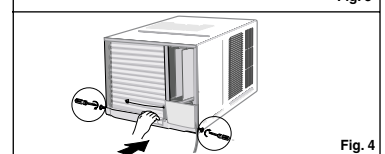

Fig. 4
5. Slide the chassis back into the cabinet. Reinstall the cabinet screws. Secure the cabinet to chassis by using screws. (See Fig.4)
4. Select the position that will place the sill support near the outer most point on sill (See Fig. 4)